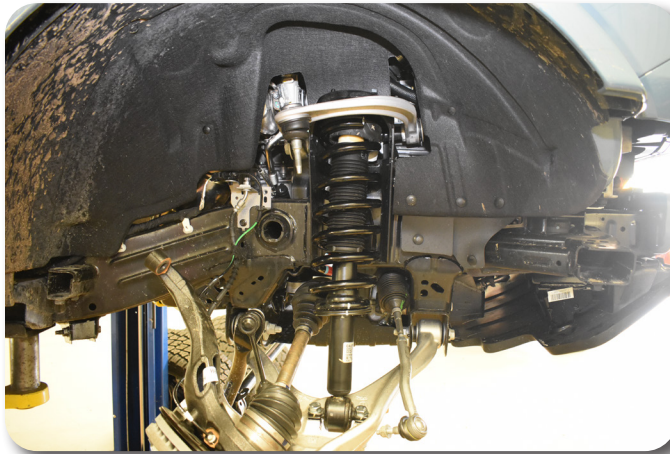

Figure 13A
17. Reinstall the strut assembly into the upper frame mount by aligning the studs in the new spacer with the original mounting holes and aligning the lower studs with the mounting holes in the lower control arm **Figure 13A**. It is important to note that the outer winding of the coil spring must face the outside (tire side) of the vehicle **Figure 13C & D**. This is to ensure proper "bowing" of the coil spring. Verify the coil spring position and adjust accordingly using a strut compressor.